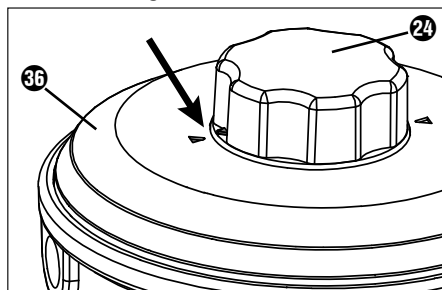

Fig. 1
- 1) Make sure that the two arrows on the cover 36 and on the rotary knob 24 of the line spool 23 point towards each other (see Fig. 1).